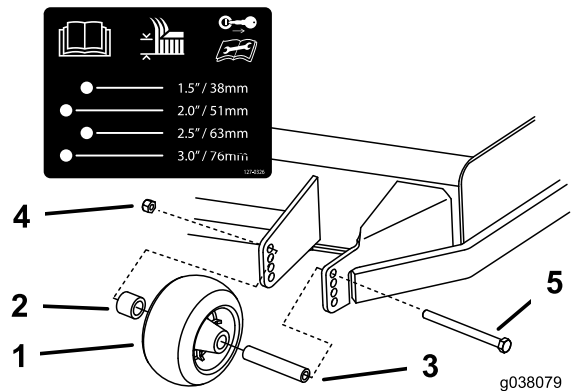

Figure 32
3. Adjust the anti-scalp rollers as shown in Figure 32.